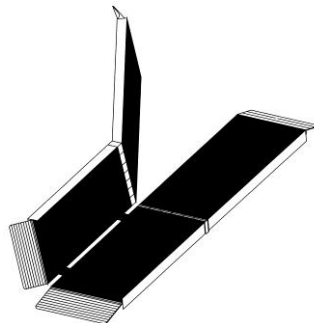

FIGURE 2
- Place ramp on landing in the folded position, making sure that the top lip transition plate (labeled TOP) is resting securely on the landing, see FIGURE 2.
- Position ramp approximately its full length out from vehicle or step. Facing vehicle or step, begin working from the left side. Stand ramp upright on end with the hinged edge facing to the right. Lift up first top half of ramp toward step or vehicle and place ramp so that the top lip transition plate is securely supporting the ramp as shown in FIGURE 2.